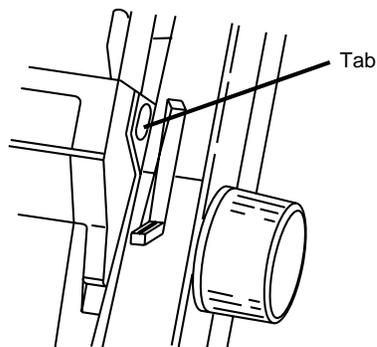

Figure 6-3. ROP Access Cover Tabs Location
- 9.2. Open the ROP access cover by grasping the tabs at either end and tilting back. See Figure 6-3.